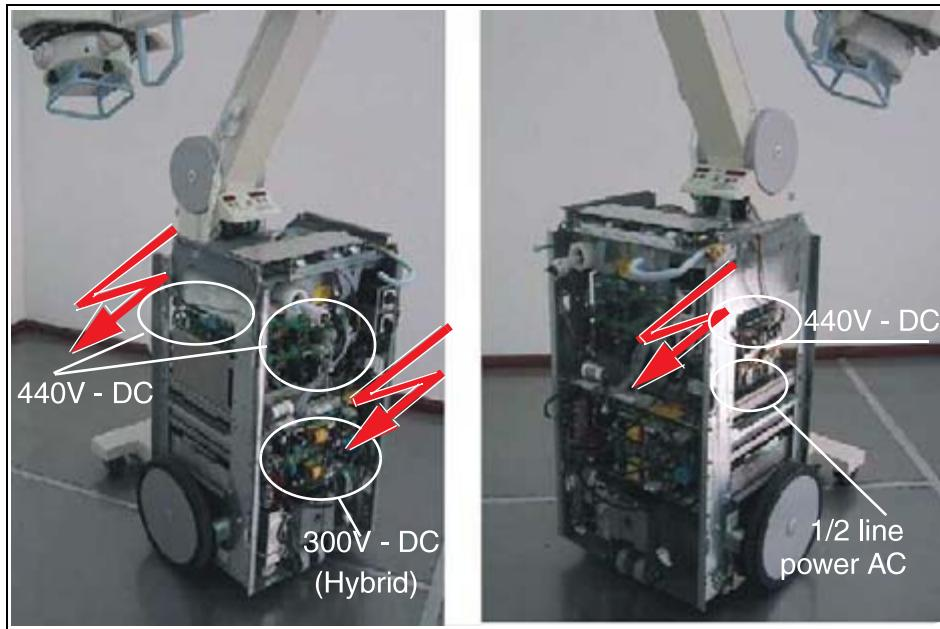

Fig. 1: Locations with dangerous voltage
- ⇒ Do not touch potentially dangerous components (Fig. 1 / p. 15)
- Prior to performing any work, it must be verified that areas with dangerous voltage are voltage-free (Fig. 1 / p. 15).